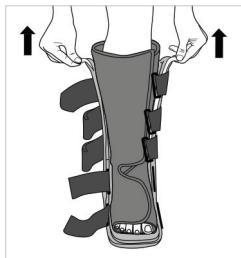

Figure 3
3. Spread the uprights using both hands and step into boot, aligning uprights with midline of the ankle. Remove protective sheaths on uprights and secure liner. The uprights may be bent to accommodate any leg contour (Figure 3).